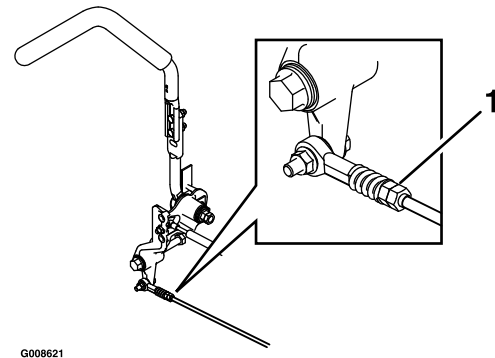

Figure 35
7. Bring the motion control levers into the neutral position. Adjust pump control rod lengths by rotating the double nuts on the rod in the appropriate direction until the wheels slightly creep in reverse (Figure 35). Move the motion control levers to the reverse position and while applying slight pressure to the lever allow the reverse indicator springs to bring the levers back to neutral. The wheels must stop turning or slightly creep in reverse.